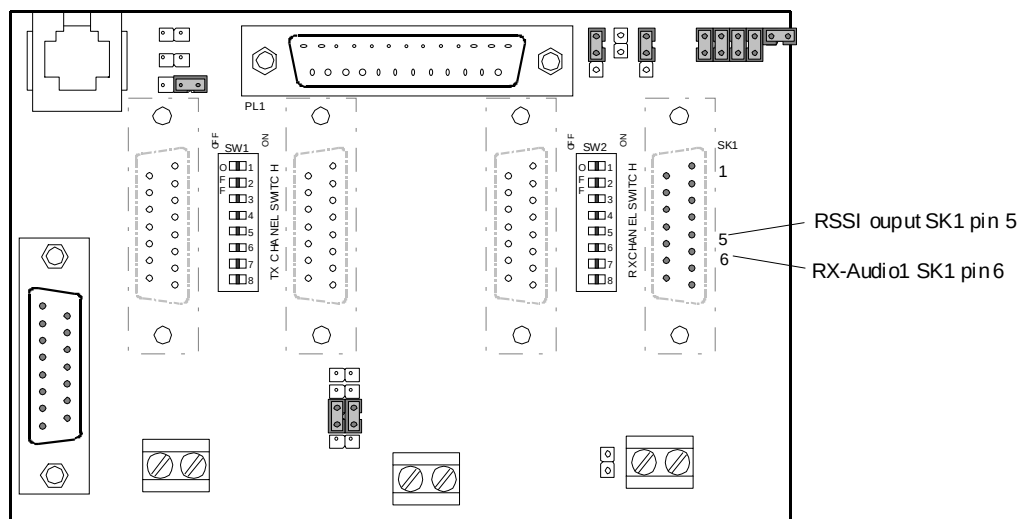

Figure 30 – T800-50-0001 Backplane and test pins location
- Adjust RV320 (RSSI level) on T855 or RV345 on T885 to give 2.0V RSSI output at SK330 pin 2 or on backplane SK1 pin 5 when measured with a voltmeter (See Figure 30 for test point location).